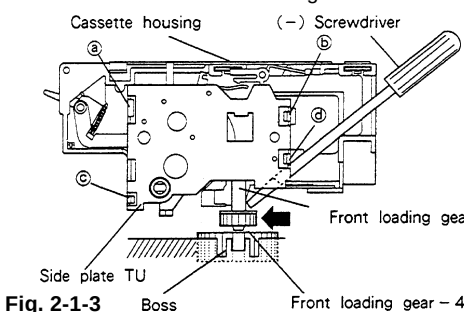

Fig. 2-1-3
- B. In step A above, if the front loading gear of the cassette housing does NOT engage the boss on the main plate, carefully push the gear toward the front of the VCR using a small-diameter screwdriver, as illustrated in Fig. 2-1-3. If the gear still will not engage, rotate the Front Loading Gear a few degrees from the below the deck until the gear engages the boss correctly.
2-2-1 Removal (Refer to Fig. 2-1-3~2-2.)
- A. Unfasten four snaps (a), (b), (c) and (d) as shown in Fig. 2-1-3, and remove the side plate TU.
2-2-2 Installation (Refer to Fig. 2-1-3~2-2.)
- Install the side plate TU to the cassette housing, and secure it with four snaps (a), (b) (c) and (d) as shown in Fig. 2-1-3 (see previous page).